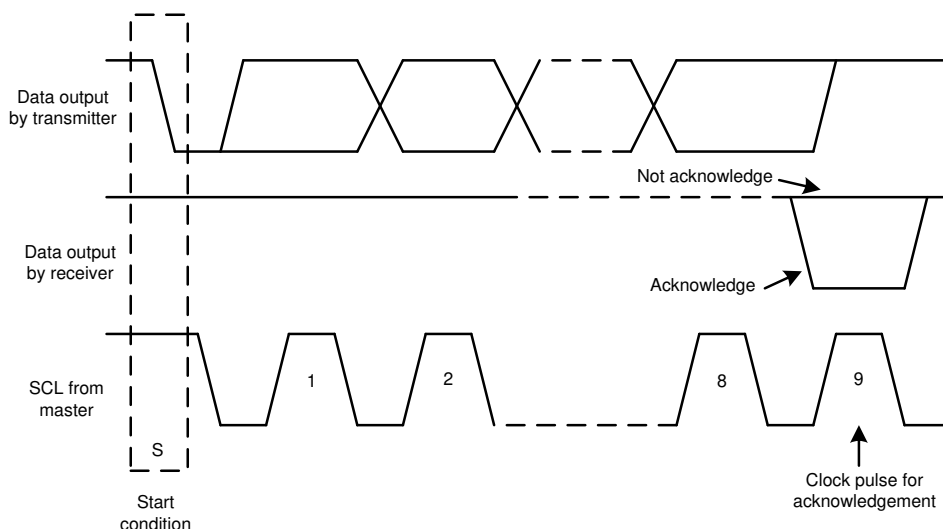
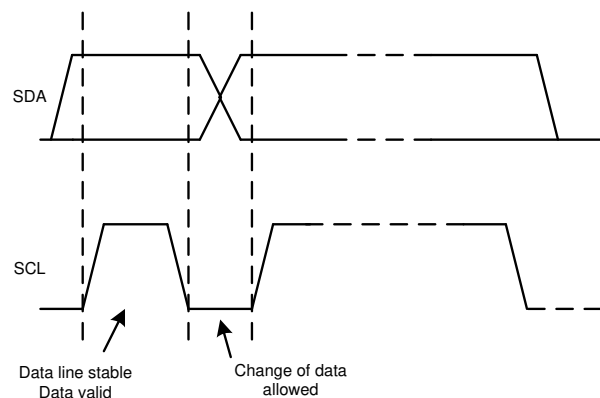

図 8-3. Acknowledge and Not Acknowledge on the I²C Bus
Figure 8-5. Bit Transfer on the I²C Bus
Other than specific timing signals, the I²C interface works with serial bytes. At the end of each byte, a ninth clock cycle generates and detects an acknowledge signal. An acknowledge is when the SDA line is pulled low during the high period of the ninth clock cycle. A not-acknowledge is when the SDA line is left high during the high period of the ninth clock cycle, as shown in 図 8-3.
2. The master then generates the SCL pulses, and transmits the 7-bit address and the read/write direction bit ($R/\overline{W}$) on the SDA line. During all transmissions, the master makes sure that data are valid. A valid data condition requires the SDA line to be stable during the entire high period of the clock pulse, as shown in Figure 8-5. All devices recognize the address sent by the master and compare the address to the respective internal fixed address. Only the slave device with a matching address generates an acknowledge by pulling the SDA line low during the entire high period of the 9th SCL cycle, as shown in Figure 8-3. When the master detects this acknowledge, the communication link with a slave has been established.